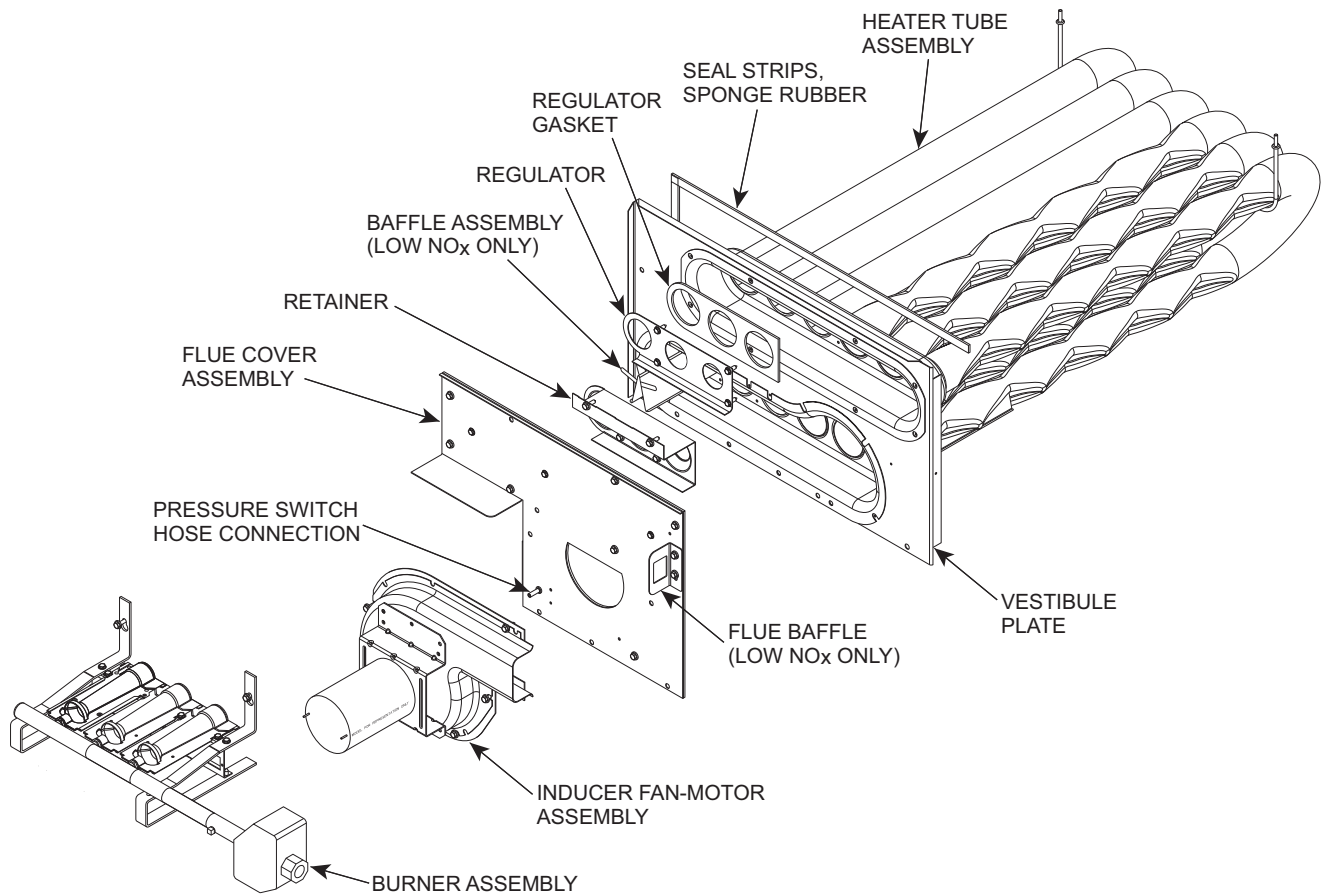

Fig. 52 — Heat Exchanger Assembly
1. Remove the combustion blower wheel and motor assembly according to directions in Combustion-Air Blower section. See Fig. 52.
2. Remove the seven screws attaching the induced-draft motor housing to the vestibule plate. (See Fig. 52.)
9. Remove the two screws attaching the burner rack to the vestibule plate (see Fig. 52).
10. Remove the pressure switch hose from the connection on the flue cover assembly (see Fig. 52).
14. Separate the following from the heat exchanger: inducer fan-motor assembly, flue cover assembly, retainer, regulator, regulator gasket, and if a Low NOx unit, also remove the baffle assembly. See Fig. 52.